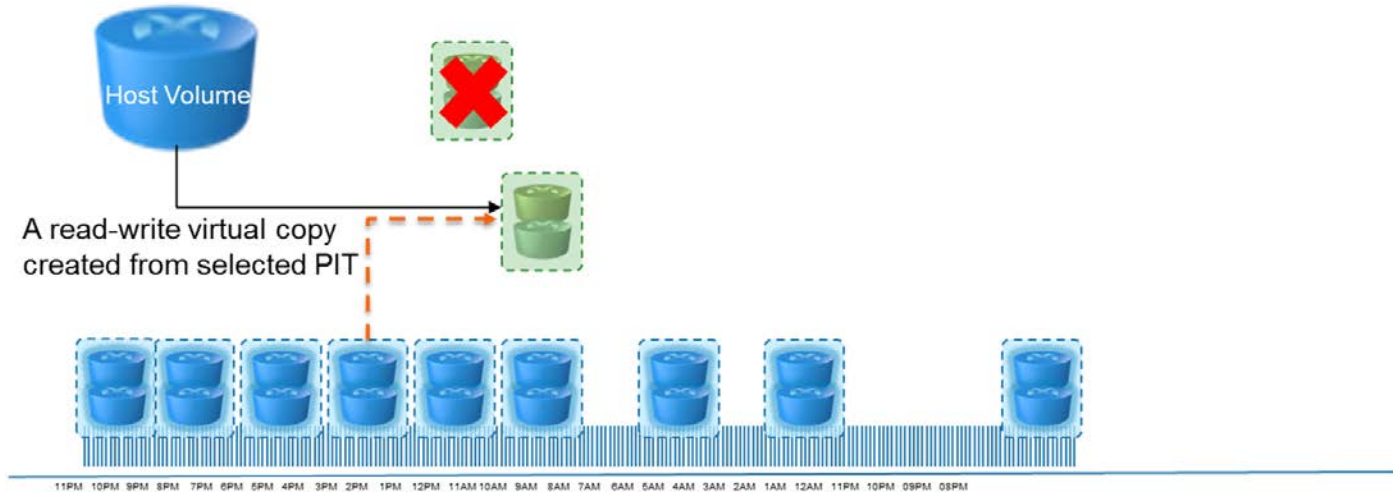

Figure 13. Failover to Selected Copy
- The failover command creates a copy from the selected PIT copy and uses the "Refresh" capability to change the host volume to point to the new created copy as shown in Figure 13.